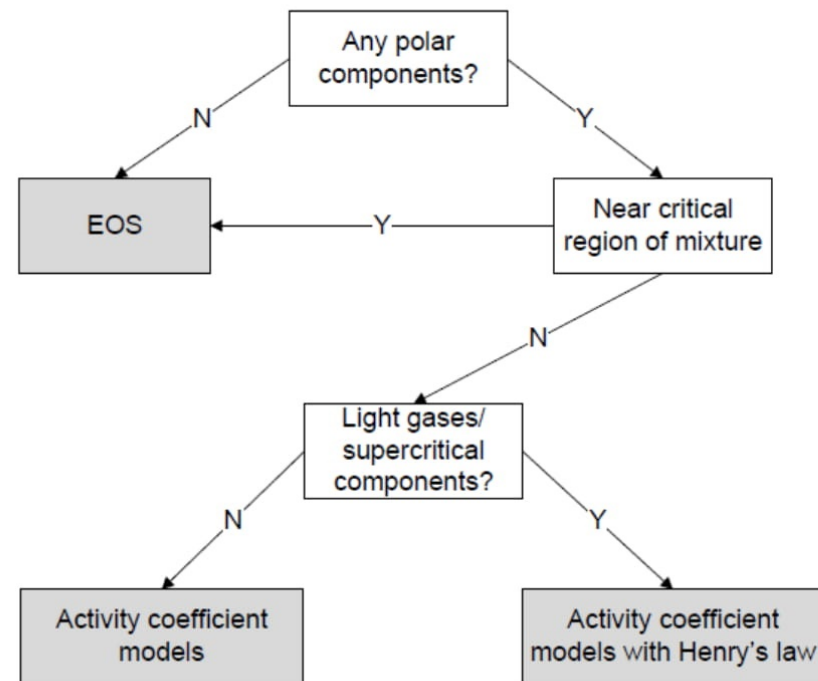

Figure 15. Selecting a property method.
- As a general guideline you can refer to the chart in Figure 15.